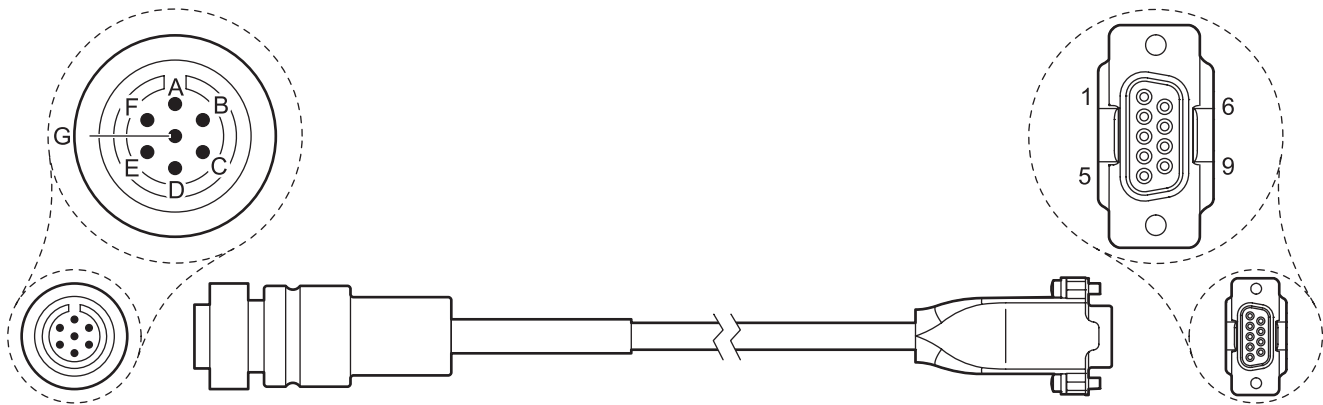

Figure 23 Serial connector cable
- Serial cable (Figure 23). See Accessories on page 94 for ordering information.